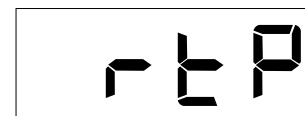

Figure 47. Residual Tank Pressure
3. If there is residual pressure remaining inside the tank, the 7-segment display will indicate "rtp" (residual tank pressure) as shown in Figure 47. When this message is displayed, the engine cannot be immediately restarted. Wait **90 seconds**, until the pressure reading on the 7-segment display indicates zero, before attempting to restart.